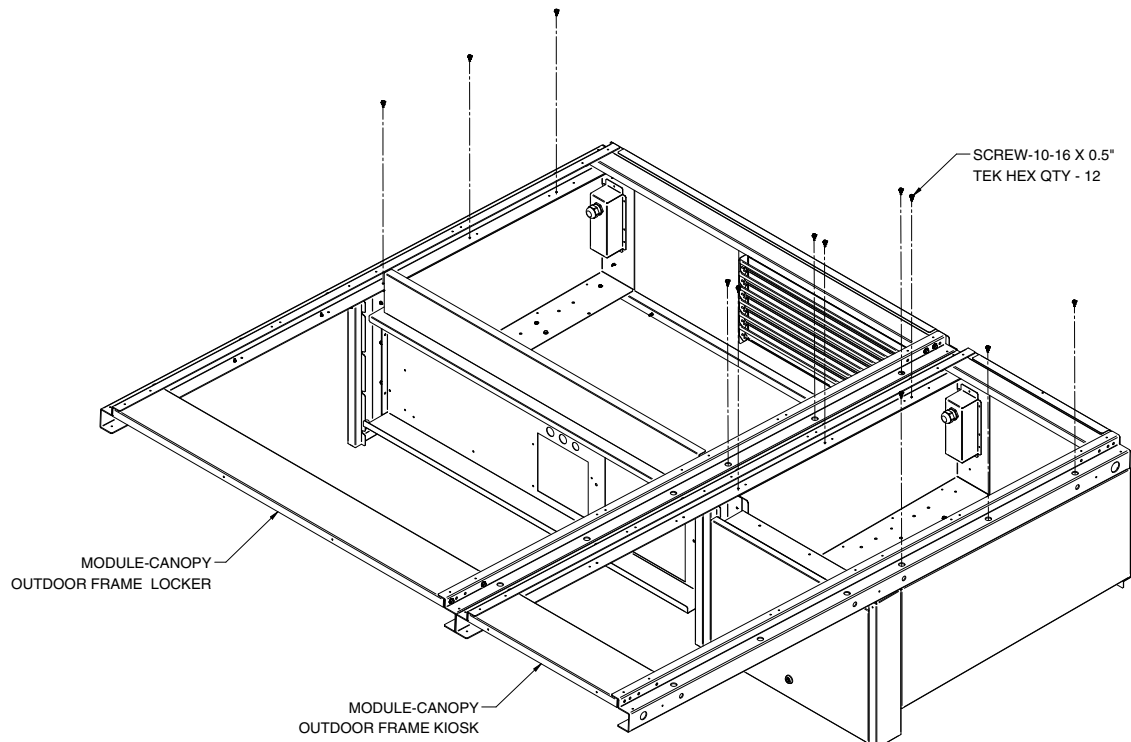

Figure 1-7b Top View of Canopy Frames attached to Refrigerated Module and Control Kiosk
2. Fasten Canopy Frame Assembly to module(s) as shown in Figure 1-7b.